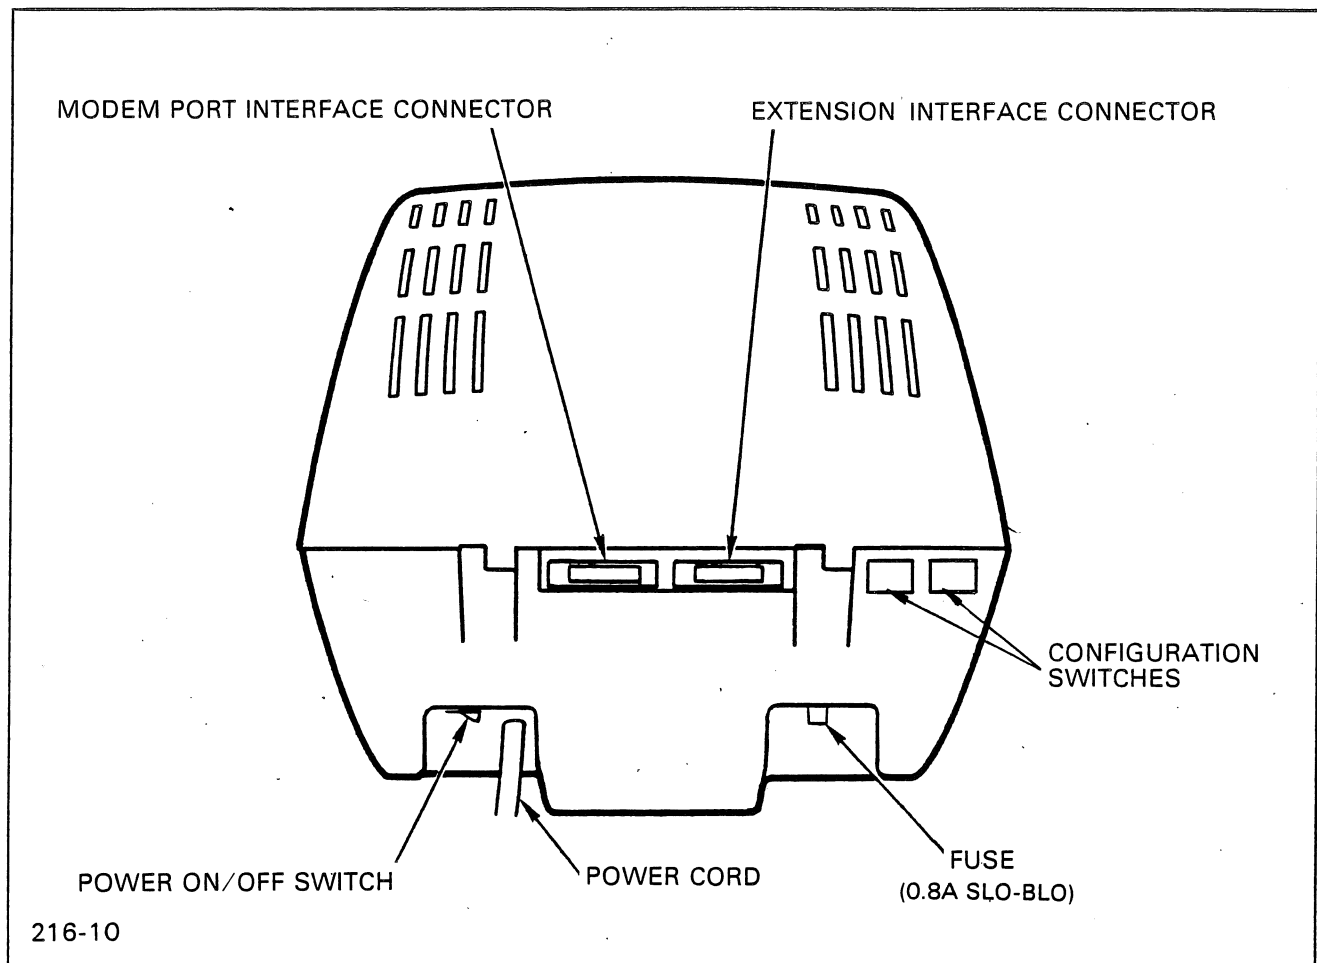

Figure 2-5. ADM 5 Rear Panel Controls
1. Verify that the POWER ON/OFF switch is OFF. See **figure 2-5**.
1. Set the POWER ON/OFF switch to ON. See figure 2-5.